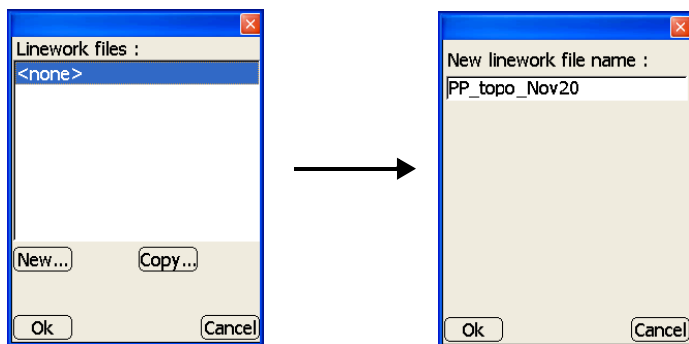

Figure 2-36. Create New Linework File
1. Press **Data ▶ Linework ▶ [<none> or file name]**. On the *Linework files* dialog box, press **New** to create a linework file (Figure 2-36).
2. On the *New linework file name* dialog box, tap the blank entry box to display the pop-up keyboard. Enter the name for the file; press **Ok** on the pop-up keyboard to continue. The Linework File name displays (Figure 2-36).